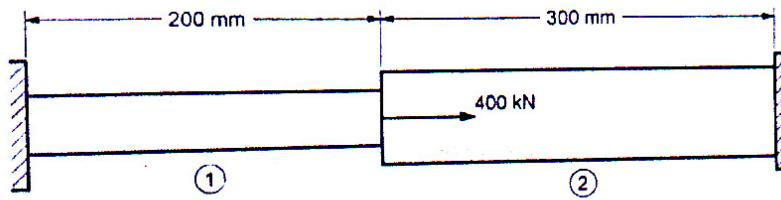

Figure 2
- b) An axial load of 400 KN is applied at 20 °C to the rod as shown in Figure 2. The temperature is then raised to 50 °C. [6]